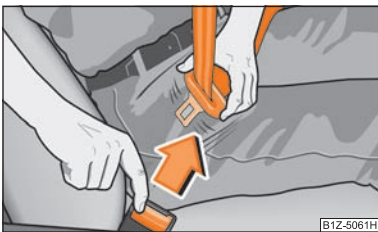

Fig. 134 Releasing lock tongue from belt lock
- Press the red button in the belt lock ⇒ fig. 134. The spring force causes the tongue of the lock to jump out.